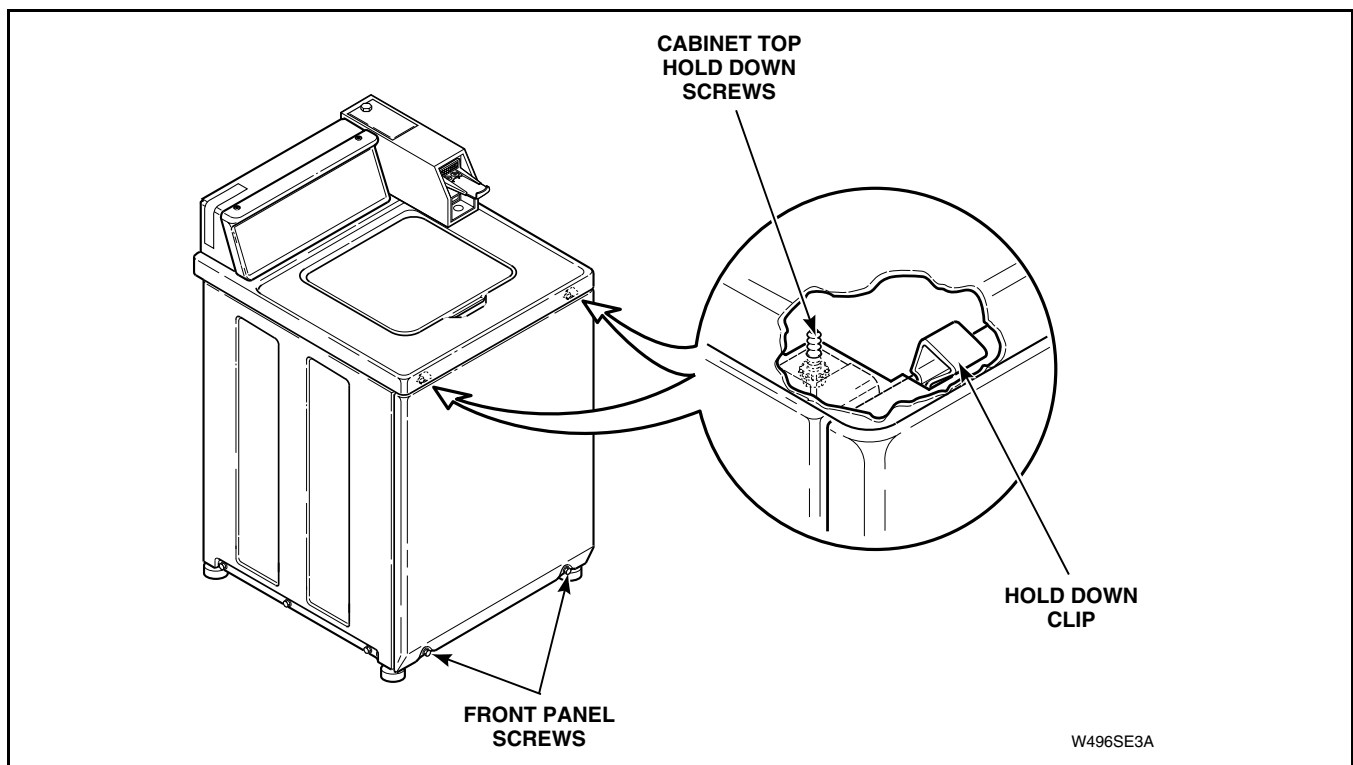

Figure 37
(Refer to *Figure 37*)
- Remove two screws from bottom edge of front panel. Refer to *Figure 37*.
- Remove two cabinet top hold down screws. Refer to *Figure 37*.
- f. Remove two screws from bottom edge of front panel. Refer to *Figure 37*.
- (1) Unlock and remove meter case service door.
- (3) Slide timer and bracket toward rear of meter case to disengage bracket from shoulder screw. Lift timer and bracket out of meter case through service door opening as far as wires will permit.
- (4) Remove shoulder screw from inside meter case.
- (5) Remove two cabinet top hold down screws. Refer to *Figure 37*.
- (6) Remove security bolt (if present) from left rear corner of cabinet top.